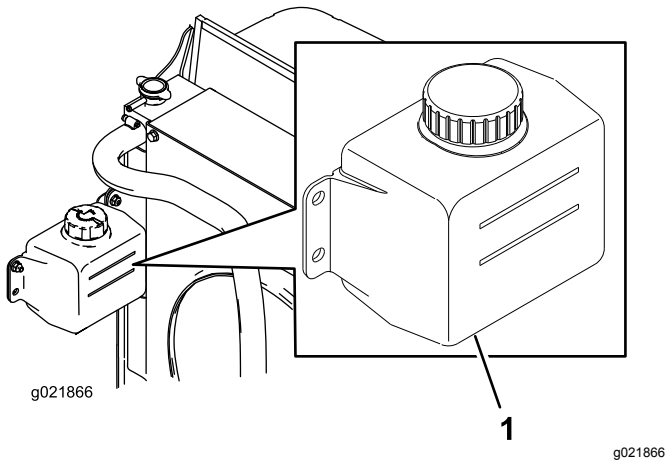

Figure 68
1. Check the level of coolant in the expansion tank (Figure 68).